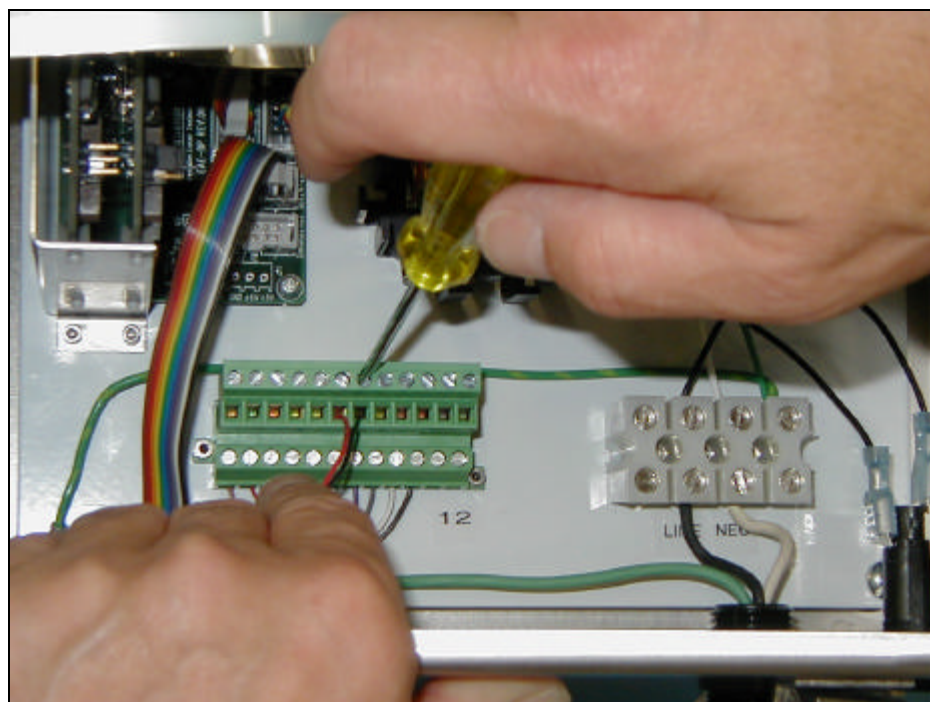

Figure 8 Replace block on base and check all terminals are tight.
8. Reinsert the matting terminal block into the base and verify that the terminals are tight. See figure 8.